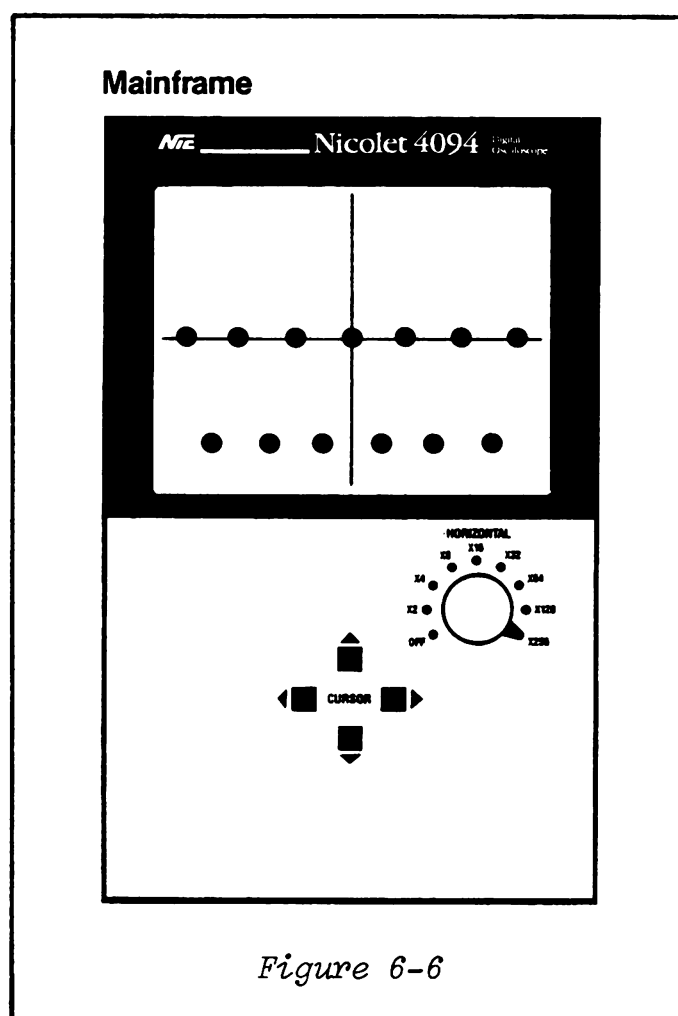

Figure 6-6
- #8. Place the HORIZONTAL EXPANSION switch to the X256 position, (Figure 6-6).